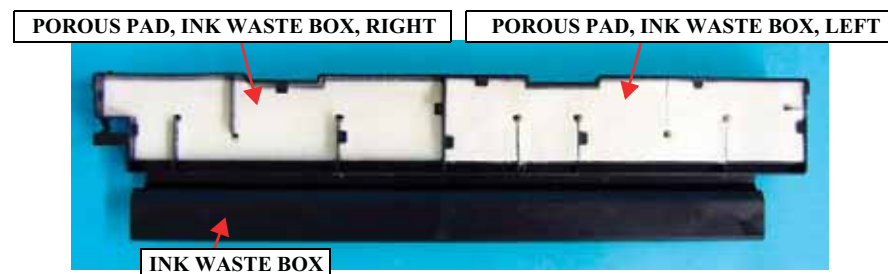

Figure 4-96. Removing the POROUS PAD, INK WASTE BOX, RIGHT/LEFT
4. Remove the POROUS PAD, INK WASTE BOX, RIGHT and the POROUS PAD, INK WASTE BOX, LEFT from the INK WASTE BOX. See Figure 4-96.